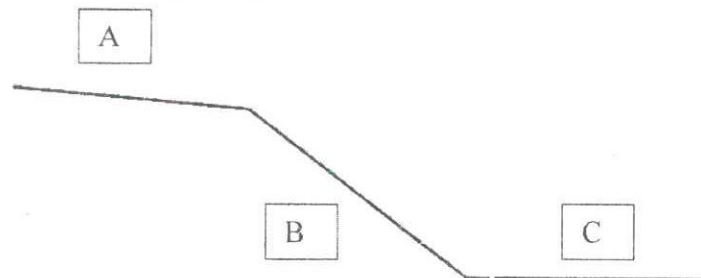

Figure Q1: Canal sections A, B, and C
- (c) A man made channel has a certain section in which the slope varies as shown in the Figure Q1. Section A has a slope of 1° , section B has a slope of 10° and section C has a slope of 0.1° . The channel is a lined concrete channel with a rectangular shape. The channel is designed to carry $2 \text{ m}^3/\text{s}$. The channel width is 1.5 m. Manning's $n=0.015$.